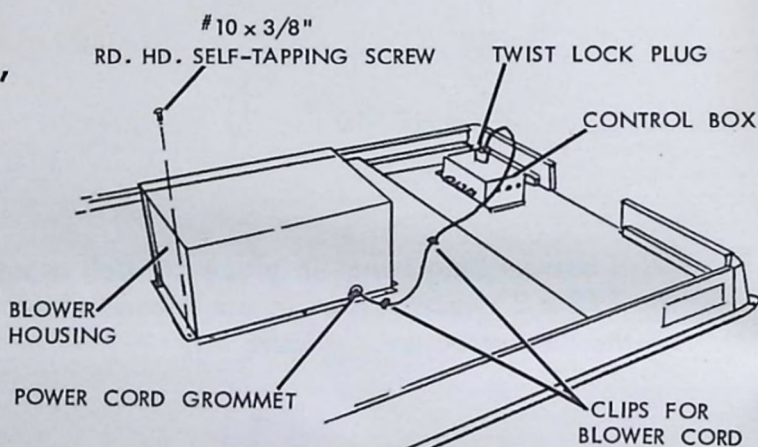

FIGURE 15
22. With the blower attached, install the blower housing. (Figure 15) Make sure the cut-out for the power cord grommet is as shown in Figure 15. Attach, using the #10 x 3/8" round head self-tapping screws.
23. Cut the grommet and install on cord in opening provided. (Figure 15)
24. Insert the power cord in the two (2) clips shown. (Figure 15)